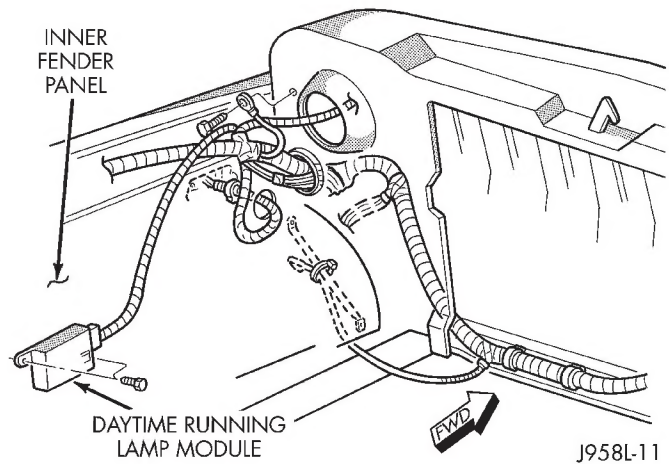

Fig. 21 Daytime Running Lamp Module
(1) Remove the engine air cleaner housing for access to the DRL module.
(2) Disconnect the wire harness connector from the module.
(3) Remove the screws that attach the module to the fender inner panel (Fig. 21).
(4) Remove the module from the fender inner panel.